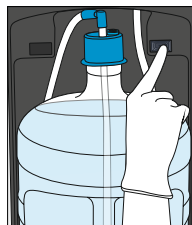

Figure 9
- To disable the heating function (Hot Water), turn off the **Energy Saving Switch** (Figure 9).